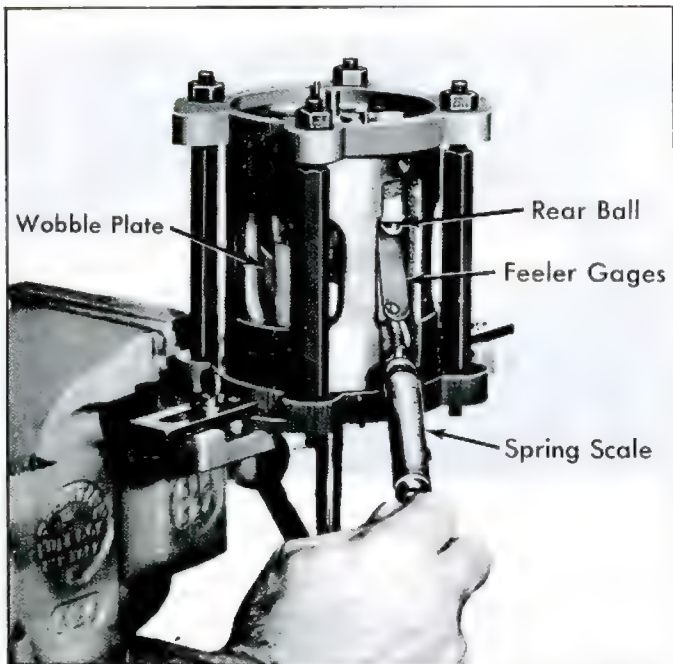

Fig. 52—Checking Clearance Between Rear Ball and Wobble Plate
12. Use a leaf type feeler gauge and a suitable spring scale to check clearance between the REAR ball and the wobble plate (fig. 52) of the No. 1 piston. Use a suitable combination of feeler gauge leaves until 4 to 8 oz. of force is required to pull gauge from between the ball and the plate.